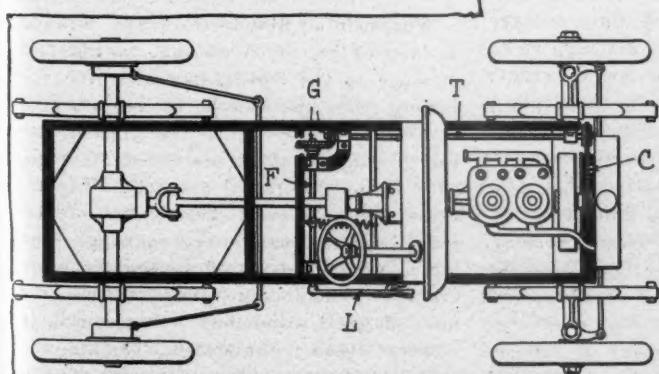

FIG. 3—MCKLVEEN'S ENGINE STARTER
**Engine-Starting Device**—No. 982,382, dated January 24; to Frank G. McKlveen and Leslie W. Naylor, Denver, Colo.—This patent relates to a means for starting the engine of a gasoline motor car from the driver's seat. The device comprises, as shown in Fig. 3, a sprocket on the crank-shaft of the motor, a chain C communicating between this sprocket and another sprocket secured to a shaft T which is rotatably secured to the side member of the chassis frame, bevel gears G to transfer rotary motion to the shaft T from the